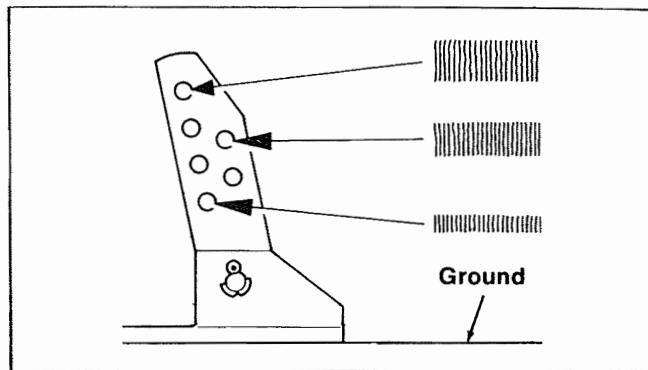

Fig. 24
3. Check the cutting height and make the necessary re-adjustment on the Skids on both sides (Fig. 24).